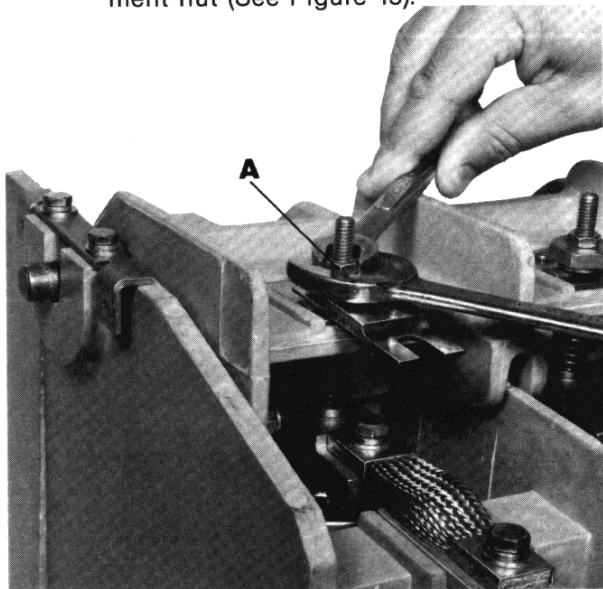

FIGURE 15
- 10) Hold gap adjustment nut with a wrench. Do not allow the nut and shaft to rotate. Tighten lock nut (A) down on gap adjustment nut (See Figure 15).